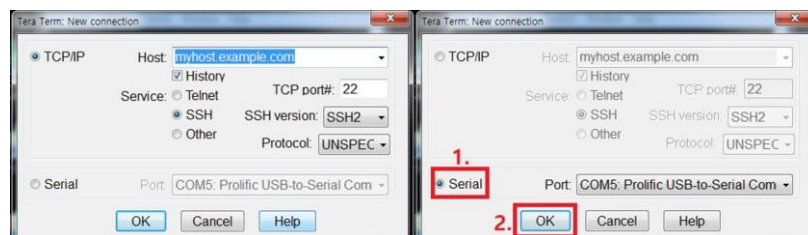

Figure 6. Tera Term - Serial setting
7. When 'New connection' box appears, change to 'Serial' (not TCP/IP) and press 'OK' button as shown in Figure 6.